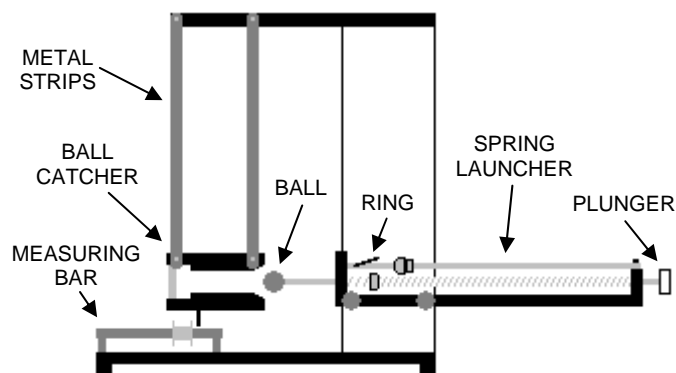

FIGURE 3 – Ballistic Pendulum
The Equipment The ballistic pendulum apparatus on your desk is a little different from the “block/bullet” one described above. Instead of a gun, you have a spring launcher. Instead of a bullet, you have a ball and, instead of a block, you have a “ball catcher” that swings up into the air. See Figure 3.
Part 1 – Guided Combo Problem Before we discuss the stages for this problem, try out the device. Put the ball at the end of the launch arm. Pull back the plunger until the nut on the upper bar passes the nut on the plunger bar and they lock into place. Put one hand on the base to hold the device down and use the other to pull up on the ring with a quick motion. **See Figure 3.**
L is the length of the metal strips holding up the catcher. **See Fig. 3**
D) Use a ruler to measure L (the length of the metal strips, See Figure 3) and place this value in the chart.